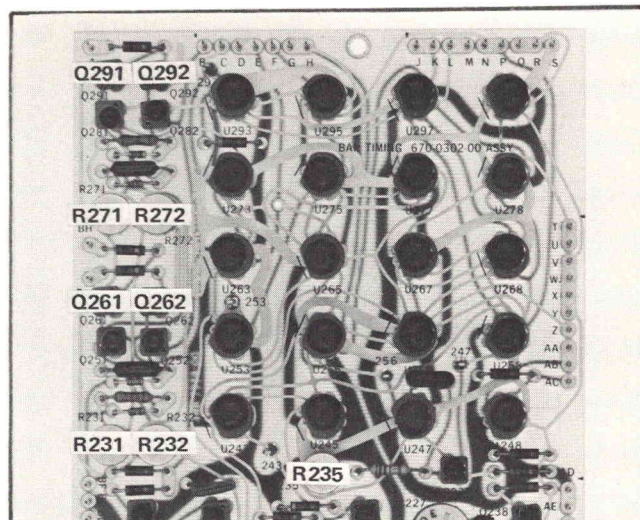

Fig. 5-33. Bar Timing board adjustment and transistor locations.
k. Remove Q261; see Fig. 5-33.
l. ADJUST—R235 (see Fig. 5-33) until the 50% point on the green-magenta transition is at the same point as the reference established in part h.